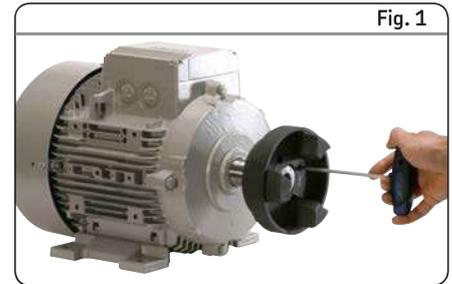

Fig. 1
- 1 Place the couplings on their shafts so that shaft ends do not protrude into the internal section of the coupling. Then tighten the screws on the taper bushing to the torque values listed in the mounting instructions (→ **fig. 1**).